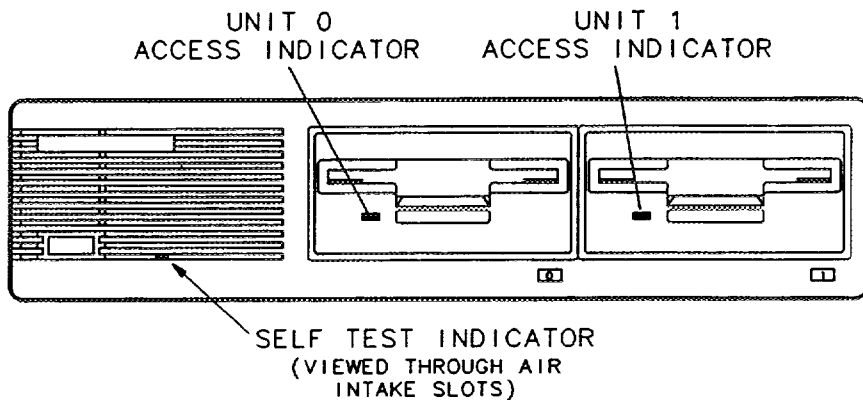

Figure 4-1. Power-on Self-test Indicators
- a. The self-test indicator illuminates (see figure 4-1).
- c. The unit 0 access indicator illuminates (see figure 4-1).
- f. The unit 1 access indicator illuminates (see figure 4-1).